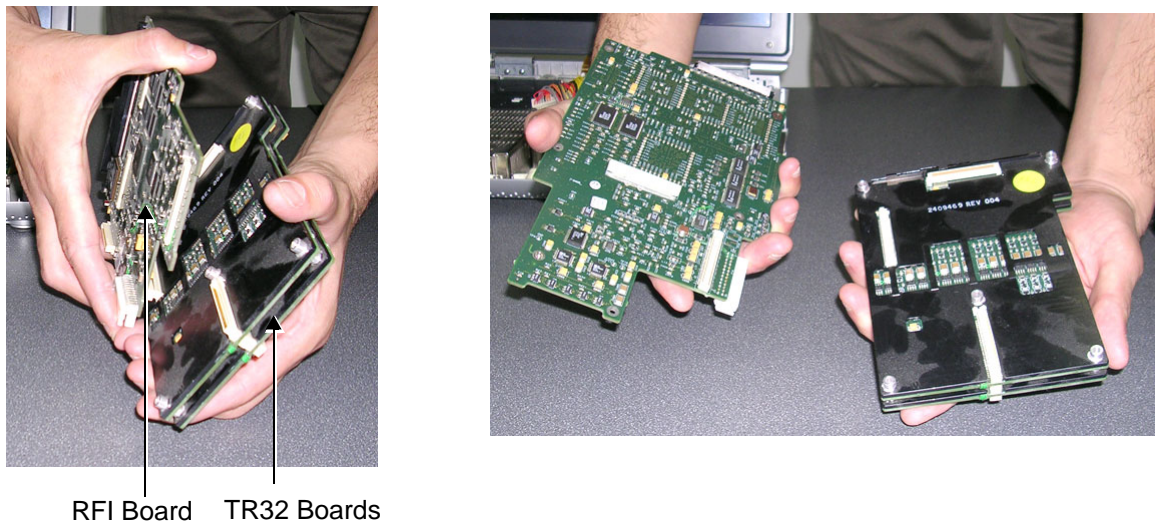

Figure 8-43 Removing the RFI Board from the TR32 Boards
- 9.) Remove the RFI Board from the TR32 Boards (separate by gently pulling them apart), as shown in Figure 8-43 below.
- 2) Connect the TR32 Boards to the RFI Board (gently press together as shown in Figure 8-43 on page 8-35).